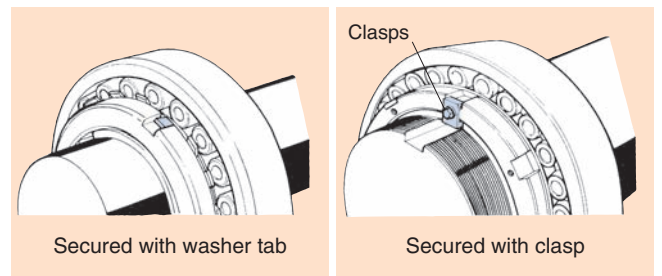

Fig. 33
- (5) Remove the locknut and hydraulic nut, set a washer that suits the installation shaft, fasten the shaft nut and bend the washer tab into the notch in the nut to secure it. For large nuts, use a clasp to secure the nut (see Fig. 33).